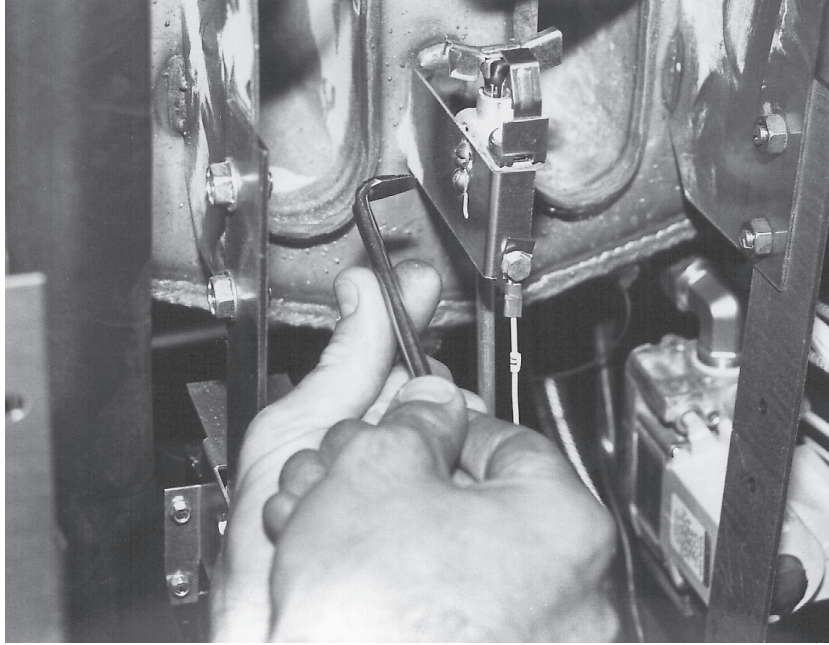

Fig. 39
4. With an offset screwdriver, remove (2) screws from the ignitor/pilot holding bracket and pull the assembly from the cooker. (Fig. 39)